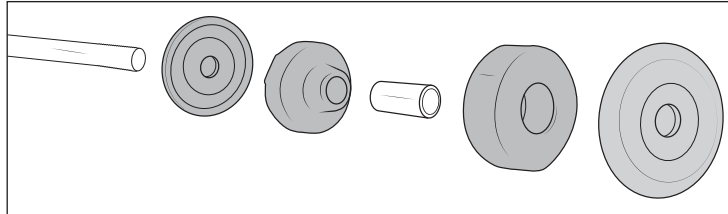

Figure 11
1. Install provided bushing components onto shock rod (fig. 11). Cupped washer goes onto shaft, then metal sleeve, then conical bushing go on shock shaft in orientation shown, then shaft gets placed through the frame and frame mount, then the other bushing and cupped washer go in place before installing the nut. Torque top nut to 40 ft-lb.